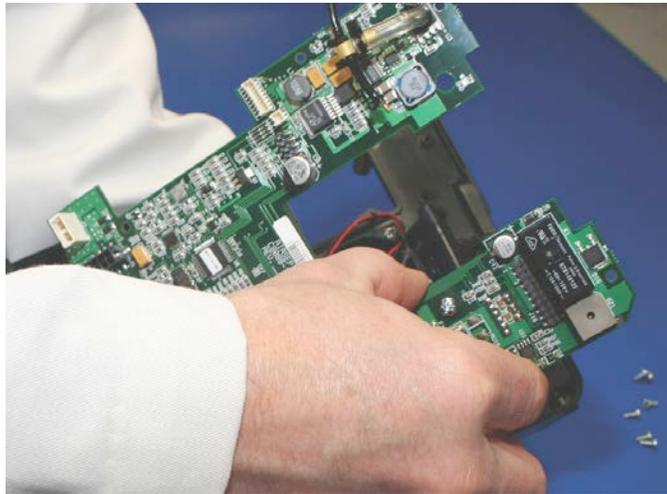

Figure 5.35
13. Remove main circuit board from center section assembly. (Figure 5.35)